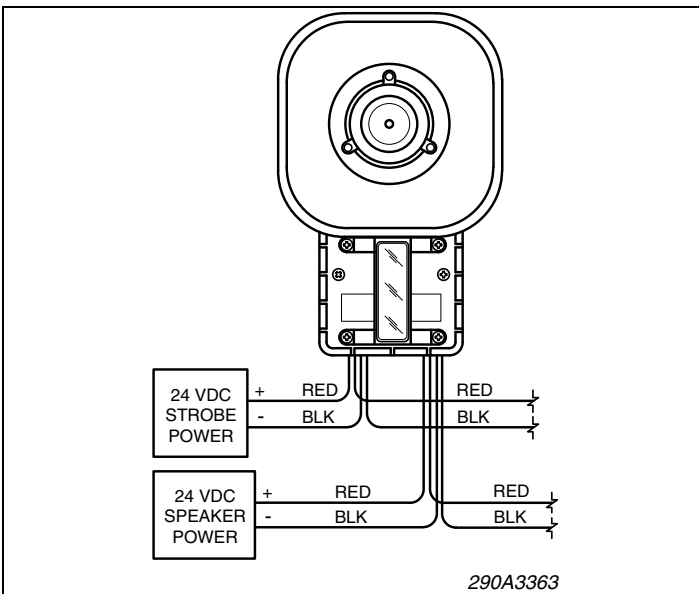

Figure 2. Typical Tone Card Installation Wiring
- See figure 2. Connect the device's red (+) leads to the power source positive (+) lead. Connect the device's black (-) leads to the power source negative (-) lead.
- See figure 2. Connect the strobe light's red (+) lead to the power source positive (+) lead. Connect the strobe light's black (-) lead to the power source negative (-) lead. If independent control of the strobe light(s) is not needed, the leads may be joined with the ASHP's power leads.